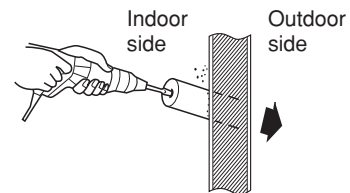

Fig. 3-48
- (8) If the tubing and wiring are to go towards the rear of the unit, make holes in the wall. (Fig. 3-48)